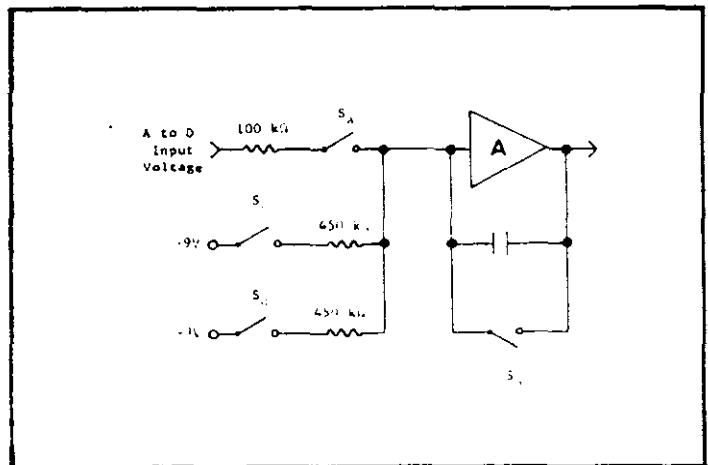

FIGURE 12. Integrator Circuit
1. Zero Period. During this period the integrator amplifier is zeroed by the closure of switch S_b . Switches S_a , S_c , and S_d are open to prevent integrator charging as shown in Figure 12.